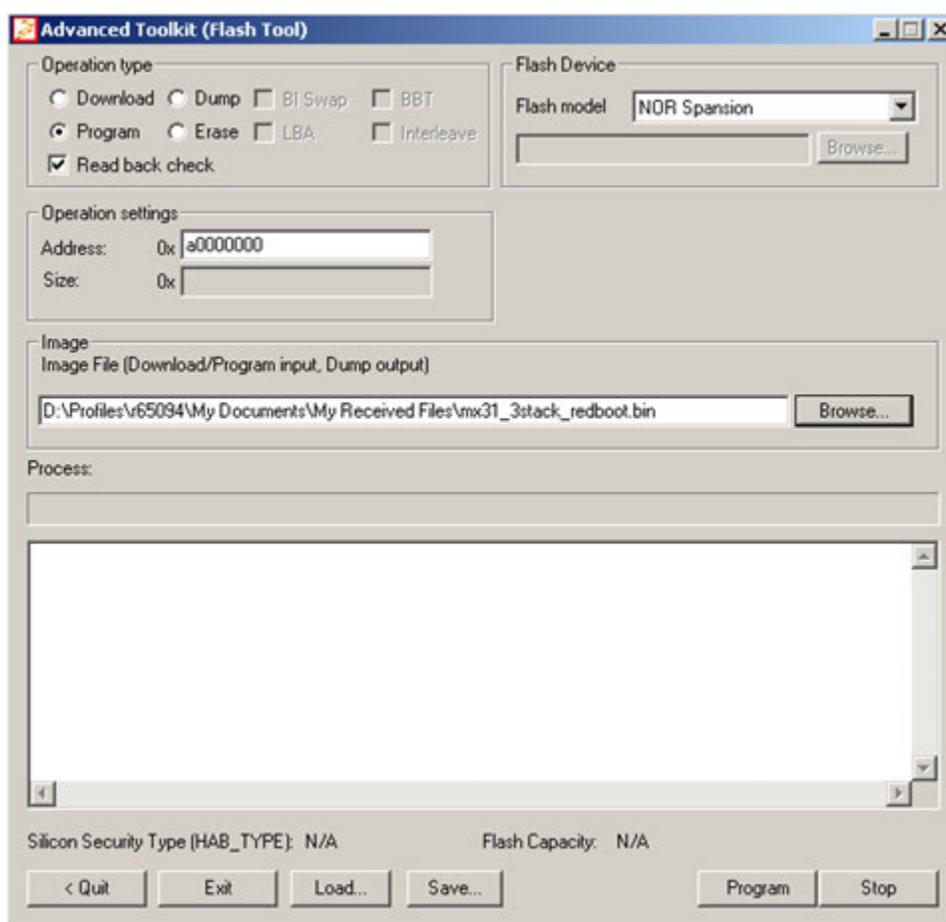
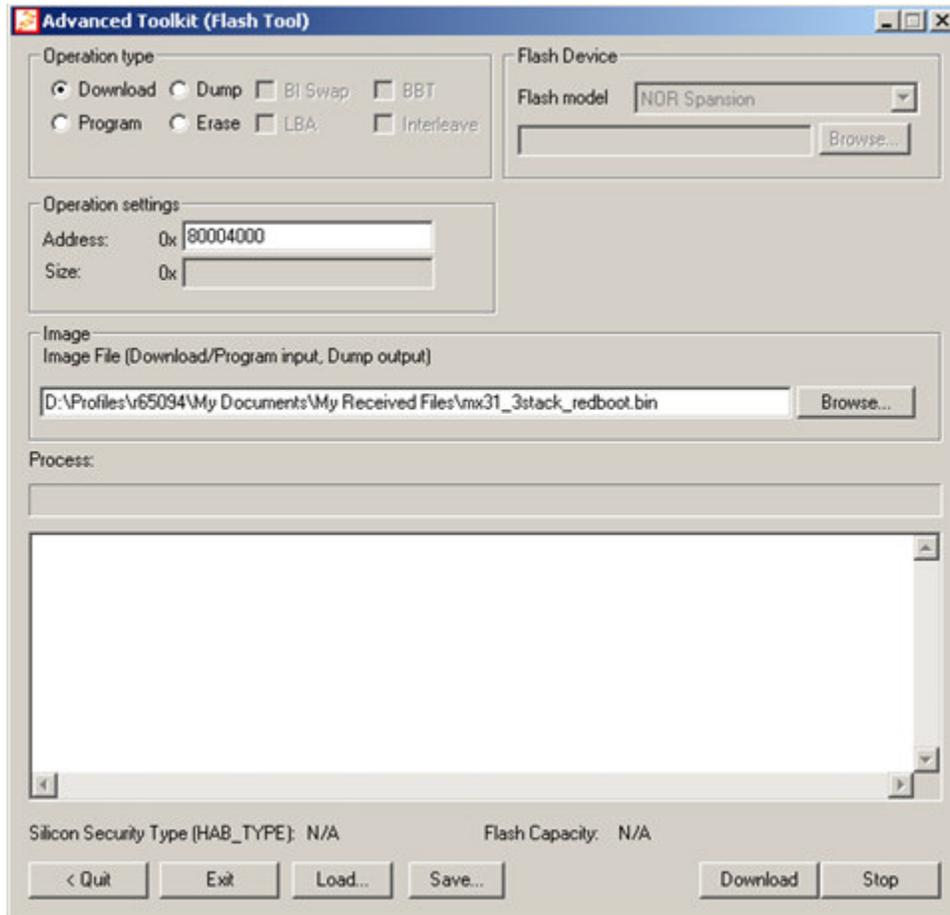
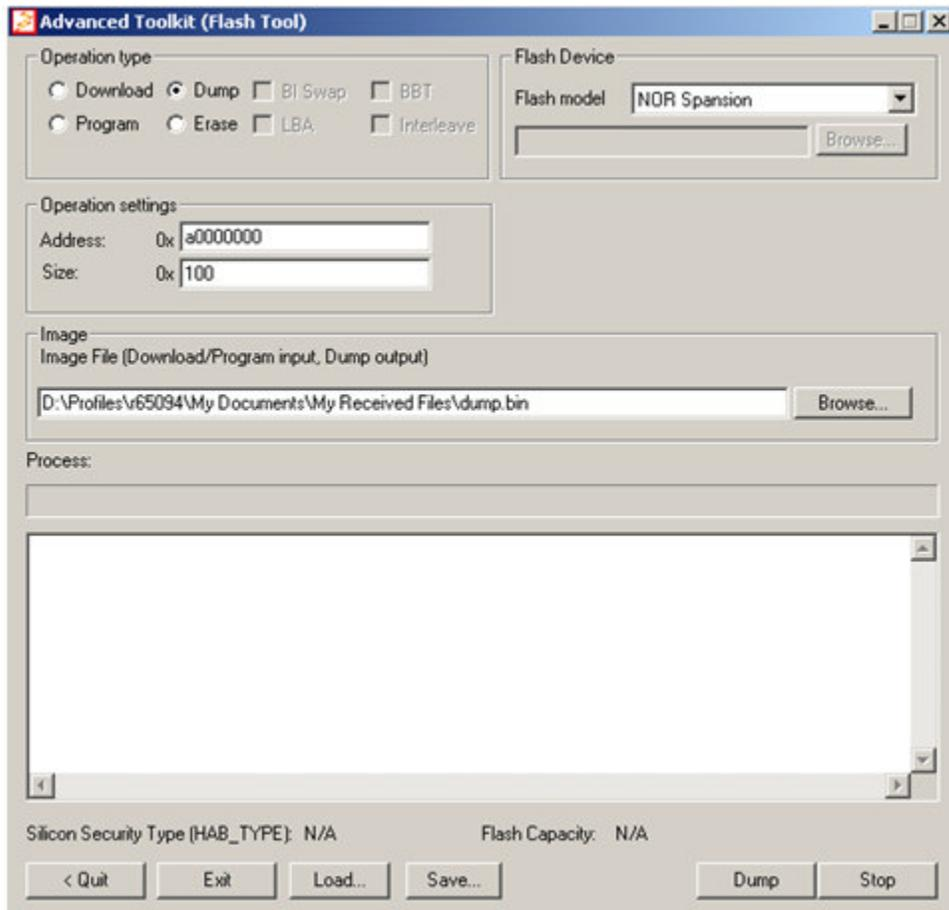
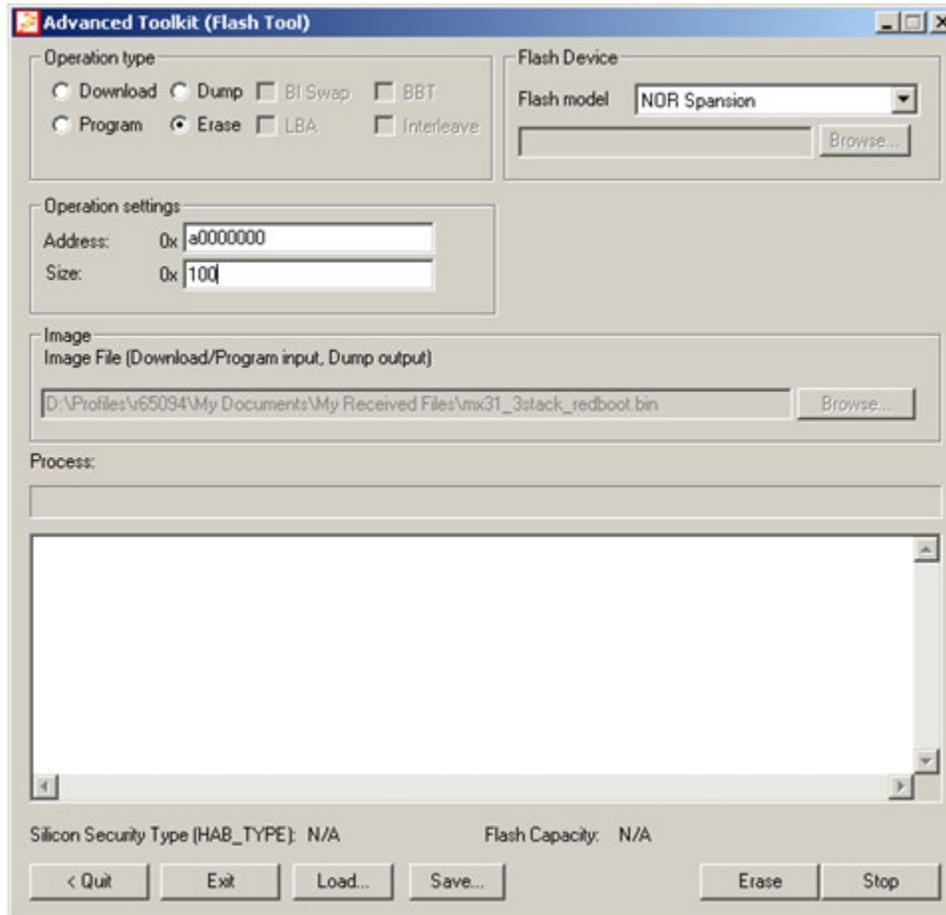

Figure 4-3 Programming NOR Flash
Figure 4-4 Downloading an Image to RAM
Figure 4-5 Dumping from NOR Flash
Figure 4-6 Erasing in NOR Flash
- For examples of option choices, see Figure 4-3 Programming NOR Flash, Figure 4-4 Downloading an Image to RAM, Figure 4-5 Dumping from NOR Flash, and Figure 4-6 Erasing in NOR Flash.
Figure 4-3 displays options for programming an image to 0xA0000000 in NOR flash.
Figure 4-4 displays options for downloading an image to 0x80004000 in RAM.
Figure 4-5 displays options for using the Flash Tool to dump from 0xA0000000 in NOR Flash with size 0x100.
Figure 4-6 displays options for using the Flash Tool to erase 0x100 bytes from 0xa0000000 in NOR Flash.